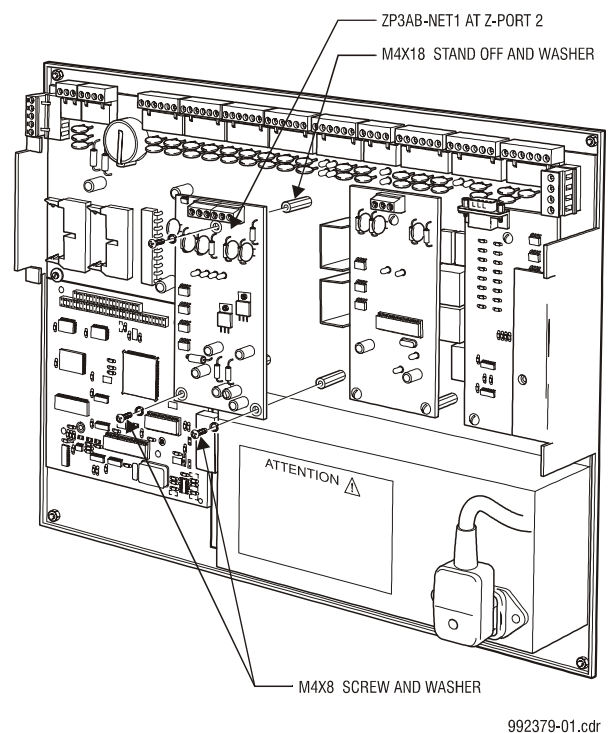

Figure 1
Mounting	Inside ZP3 panel on main board at Z-Port 2. (Fig 1)
2. Remove 3 x M4 x 8 screws located around Z-Port 2 on the ZP3 main board. (Fig 1)